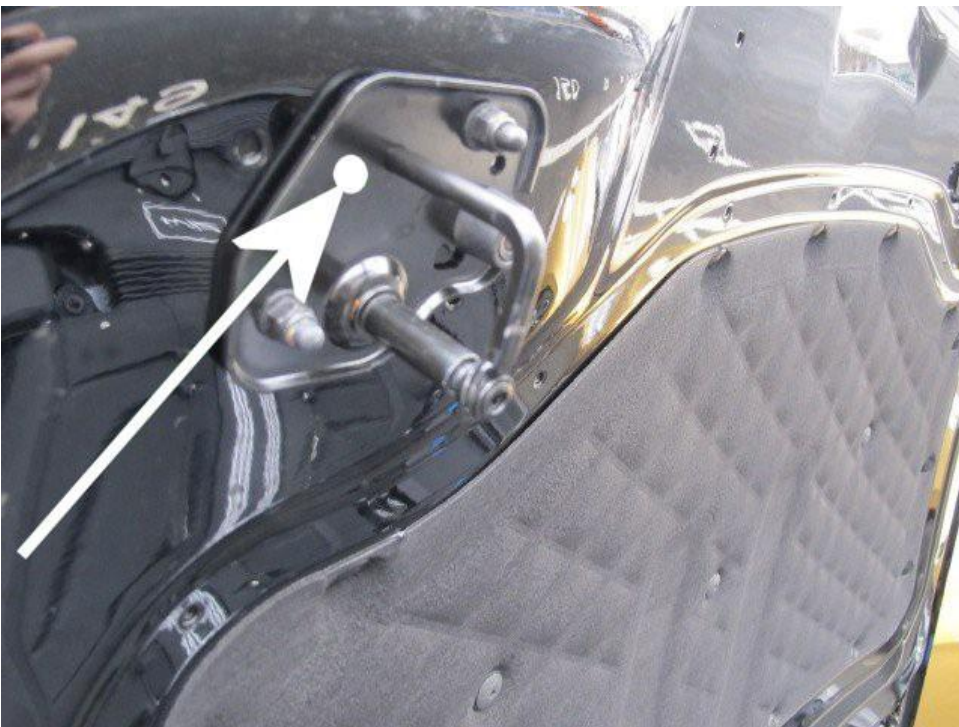

Figure 8
If the vehicle is not already listed as repaired in the 'Repair history' section of ElsaPro, check for the presence of the white campaign identification mark as Figure 8. In the event the campaign has not been applied, please carry out the required work in accordance with these instructions.
9) Place a white completion mark on the right hand bonnet latch striker (Figure 8)
White paint completion mark on the right hand bonnet latch striker (Figure 8)